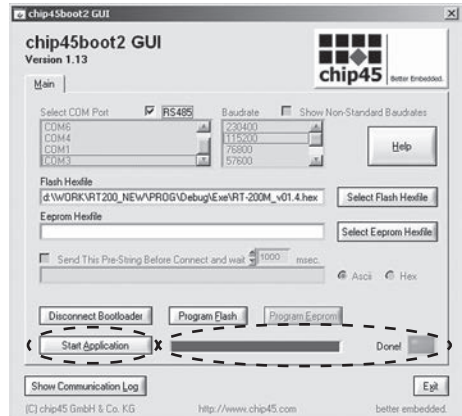

Figure 31.
14. Ensure the upload is complete — a full blue progress bar and the message “DONE!” with a green indicator should appear (see Fig. 31);
15. Click “Start Application” (see Fig. 31).